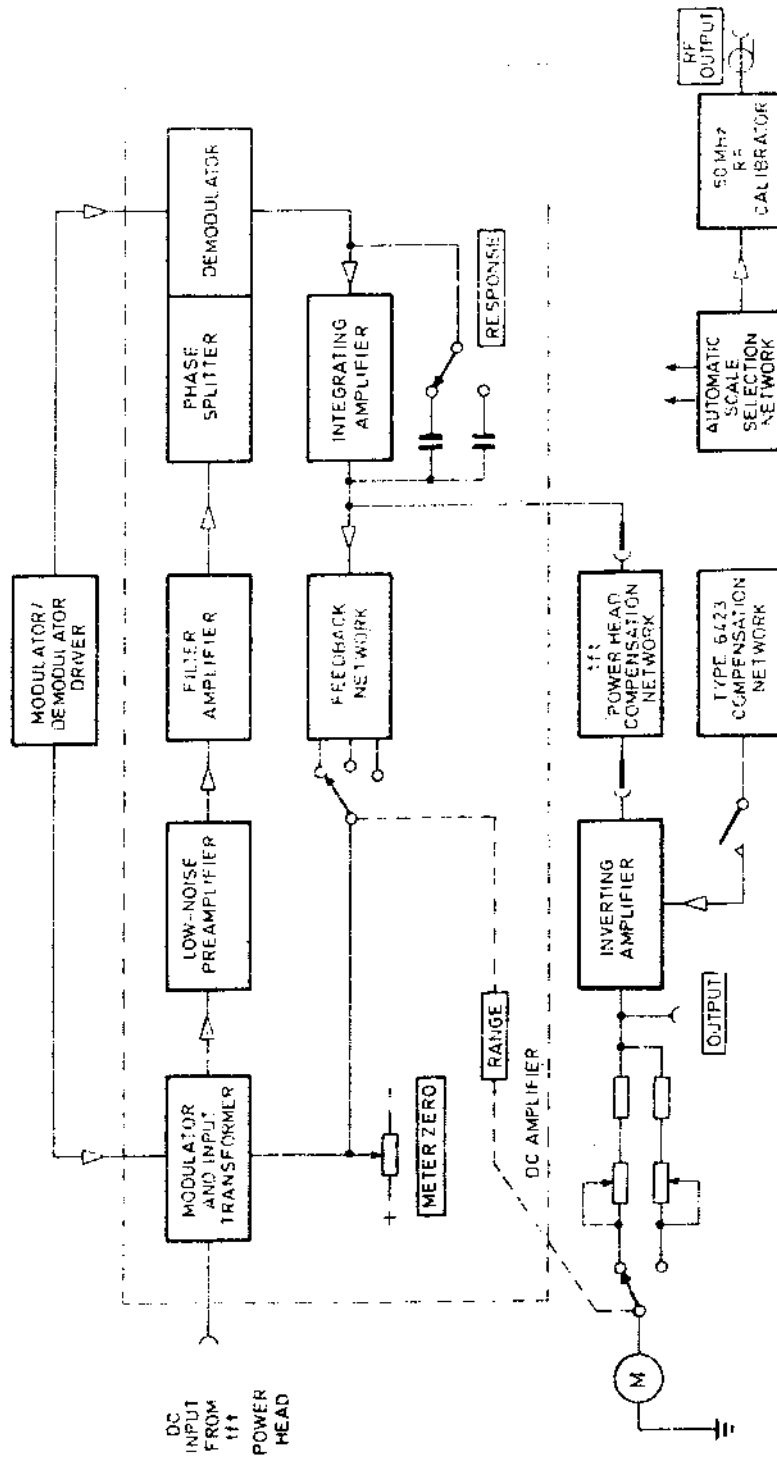

Fig. 1 Block diagram of tft Powermeter 6460/1
2. Fig. 1 is a block diagram of the overall unit. The d.c. input signal from the tft power head is applied to the modulator. The square wave output signal of the modulator is stepped up by the input transformer and applied to the low-noise pre-amplifier. The square wave signal is amplified in this circuit and coupled to the filter amplifier, where much of the noise and other spurious signals are filtered out.